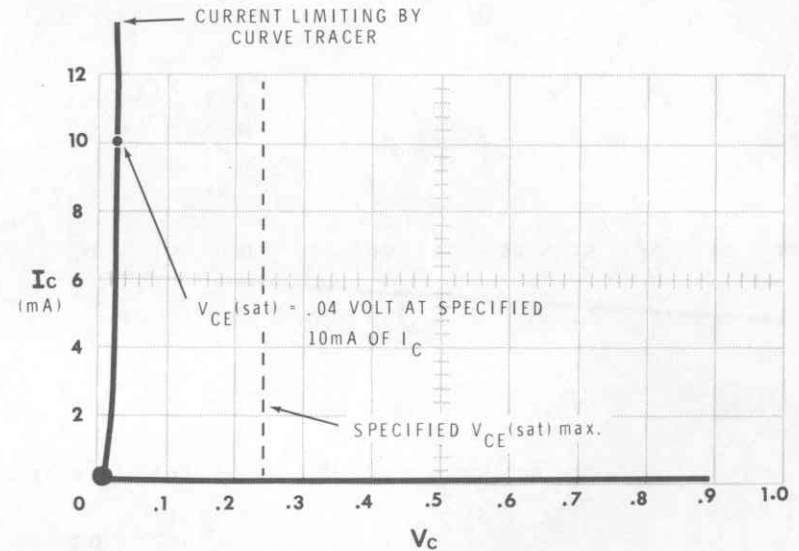

Figure 3-2
2. If a transistor is open, only the base line will appear on the display. If the transistor is shorted, there will be a vertical line as in Figure 3-2 but there will be no base line.
Transistor data sheets specify  $V_{CE(sat)}$  as a maximum voltage at a given base current and collector current. In Figure 3-2 this value is .04 volt.
$$\text{Figure 3-2, } r_{CE(sat)} = \frac{.04 \text{ V}}{10 \text{ mA}} = \frac{40 \text{ mV}}{10 \text{ mA}} = 4 \Omega.$$